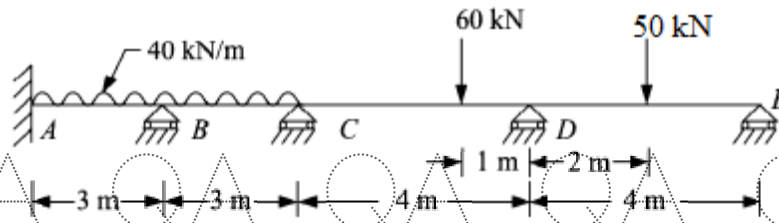

Figure 7
9. Analyse the beam shown in figure 7 by Stiffness matrix method. [10]